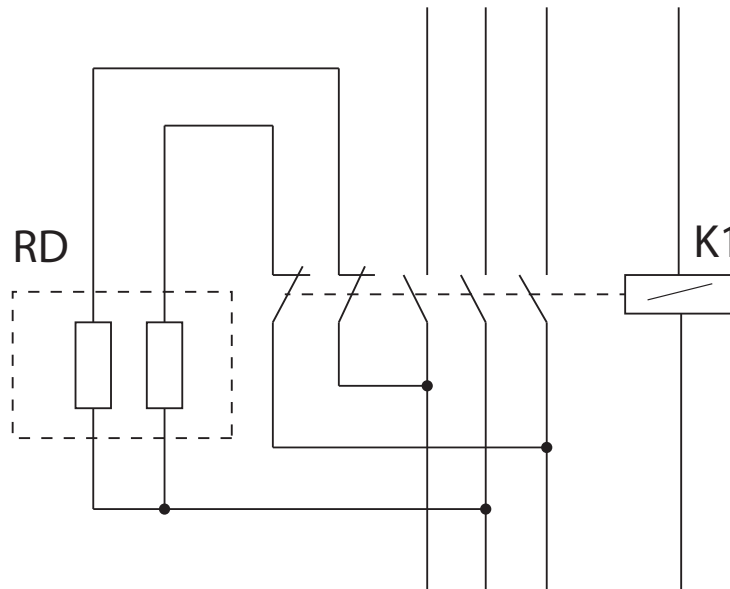

Figure 10: Connection of the discharge resistors.
- ✓ If the capacitor bank includes RD discharge resistors, check that they are in good condition (they are not open and show no signs of burning). (**Figure 10**)